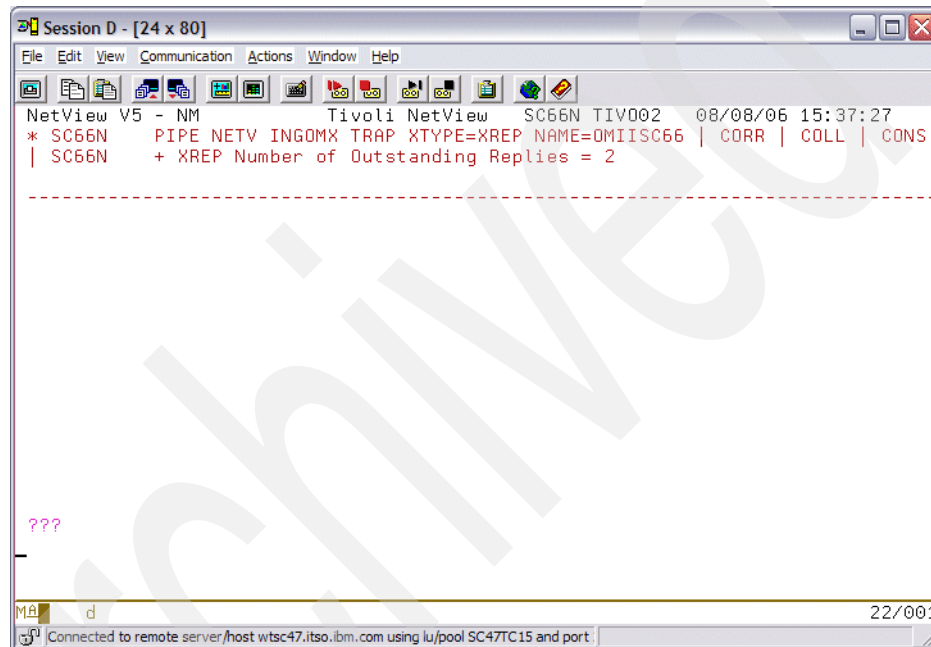

Figure 3-15 TRAP command response
- The INGOMX TRAP command allows you to retrieve exceptions, such as the OMEGAMON for z/OS exception for outstanding replies, XREP. The exception retrieval is typically invoked under a NetView PIPE command to be able to analyze and process the returned result from OMEGAMON, as the exception are returned asynchronously, INGOMX does not issue any confirmation messages, and the output is only written to the console when INGOMX returned with code 0. The command that we use is PIPE NETV INGOMX TRAP,XTYPE=XREP,NAME=OMIISC66 | CORR | COLL | CONSOLE. Figure 3-15 shows the command result.